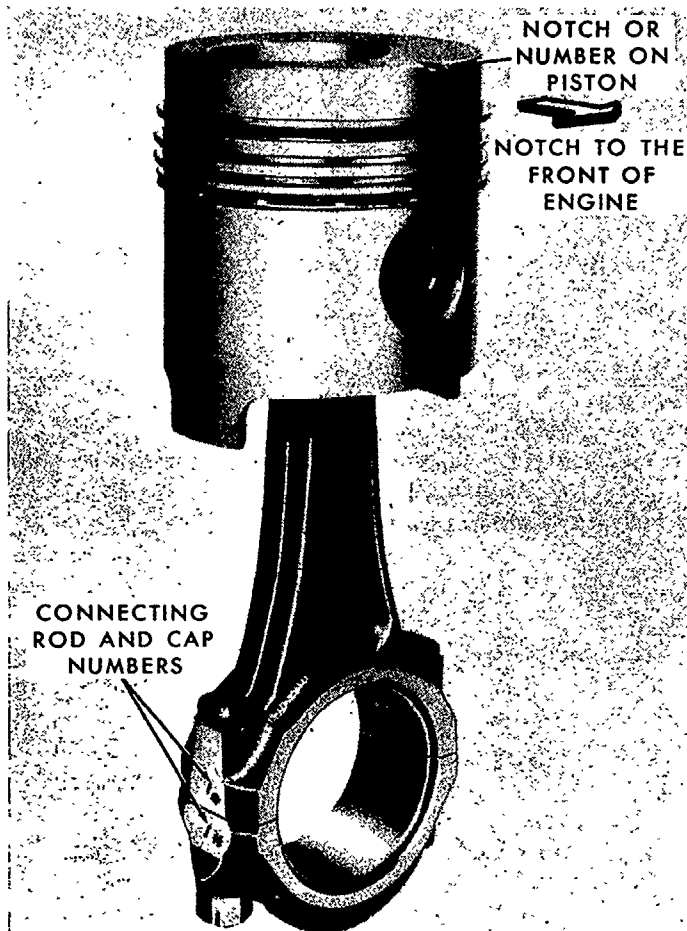

Figure 56
Position gap in line with piston dome identification mark, Figure 56.
2. Assemble the piston to the connecting rod with the notch on the piston crown and the pip on the connecting rod in line as shown in Figure 56. If a new piston is used the connecting rod piston pin bushing may have to be reamed or replaced to provide the specified pin-to-bushing clearance (when properly fitted the pin should rotate snugly in both the rod and piston). Before installing the piston in the block be sure the piston pin retainers are fully seated in the piston grooves.